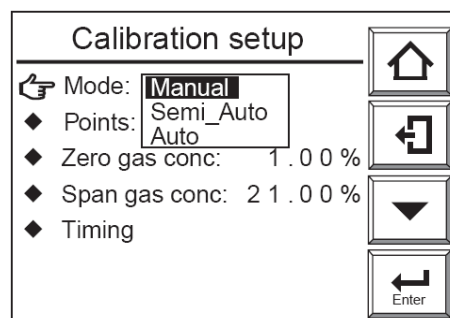

Figure 1
4. Select Mode from the Calibration setup display (see figure 1).